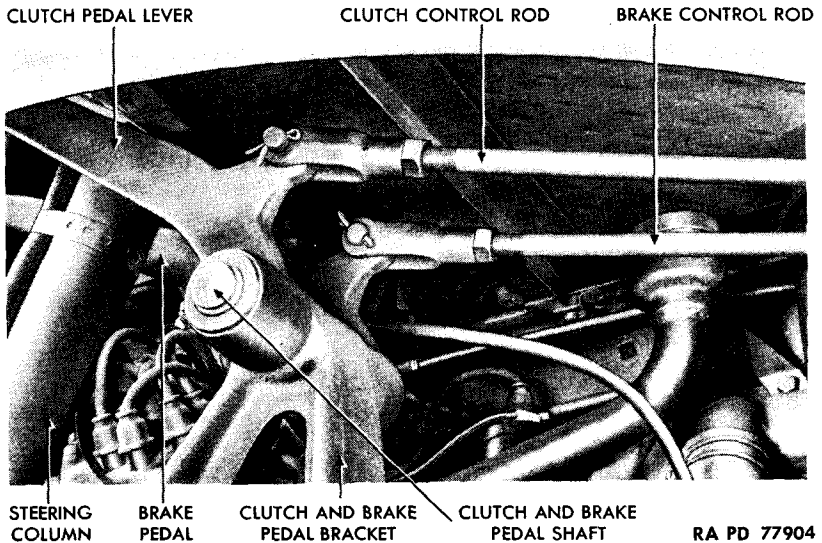

Figure 28 – Clutch, Brake Pedals, and Linkage
- qq. **Remove Clutch Pedal Lever, Brake Pedal Lever, and Clutch and Brake Pedal Bracket** (fig. 28). Remove the 5 nuts, 10 lock washers, and 5 bolts which secure bracket to frame. Remove bracket and pedal levers as a unit.
- w. **Install Clutch Pedal Lever, Brake Pedal Lever, and Clutch and Brake Pedal Bracket** (fig. 28). Position bracket to frame. Install the five bolts, two toothed lock washers, eight lock washers, and five nuts which secure bracket to frame.
(1) DISCONNECT CLUTCH CONTROL ROD AND CLUTCH PEDAL LEVER (fig. 28). Remove the cotter pin and clevis pin which secures rod to lever.
(2) REMOVE CLUTCH PEDAL LEVER FROM CLUTCH AND BRAKE PEDAL SHAFT (fig. 28). Remove taper pin, lock ring, and flat washer which connects lever to shaft. Slide shaft over away from clutch side, and remove pedal lever.
(4) INSTALL CLUTCH PEDAL LEVER ON CLUTCH AND BRAKE PEDAL SHAFT (fig. 28). Slide pedal shaft over away from clutch pedal side. Position pedal lever on end of shaft, and secure with the flat washer, lock ring, and taper pin.
(5) CONNECT CLUTCH CONTROL ROD AND CLUTCH PEDAL LEVER (fig. 28). Position clutch control rod to pedal lever, insert clevis pin, and secure with cotter pin.
(6) ADJUST CLUTCH (par. 59).